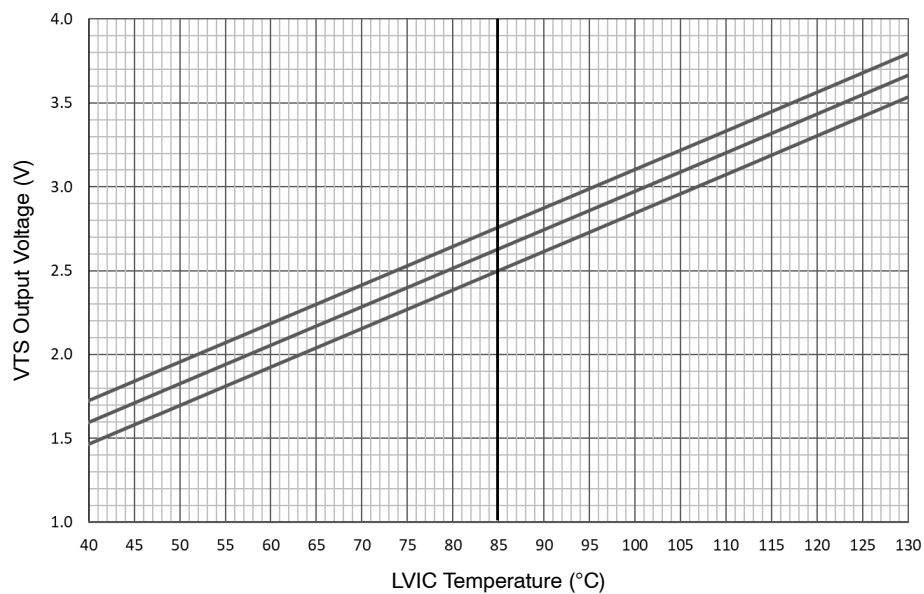

Figure 4. Temperature of LVIC vs. VTS Characteristics
5. TLVIC is the temperature of LVIC itself. VTS is only for sensing temperature of LVIC and cannot shutdown IGBTs automatically. The relationship between VTS voltage output and LVIC temperature is described in *Figure 4*. It is recommended to add 5.1 kΩ pull down resistor between VTS and VSS (Signal Ground) as described in *Figure 5* for linear output characteristics at low temperature. Refer to the application note for usage of VTS.